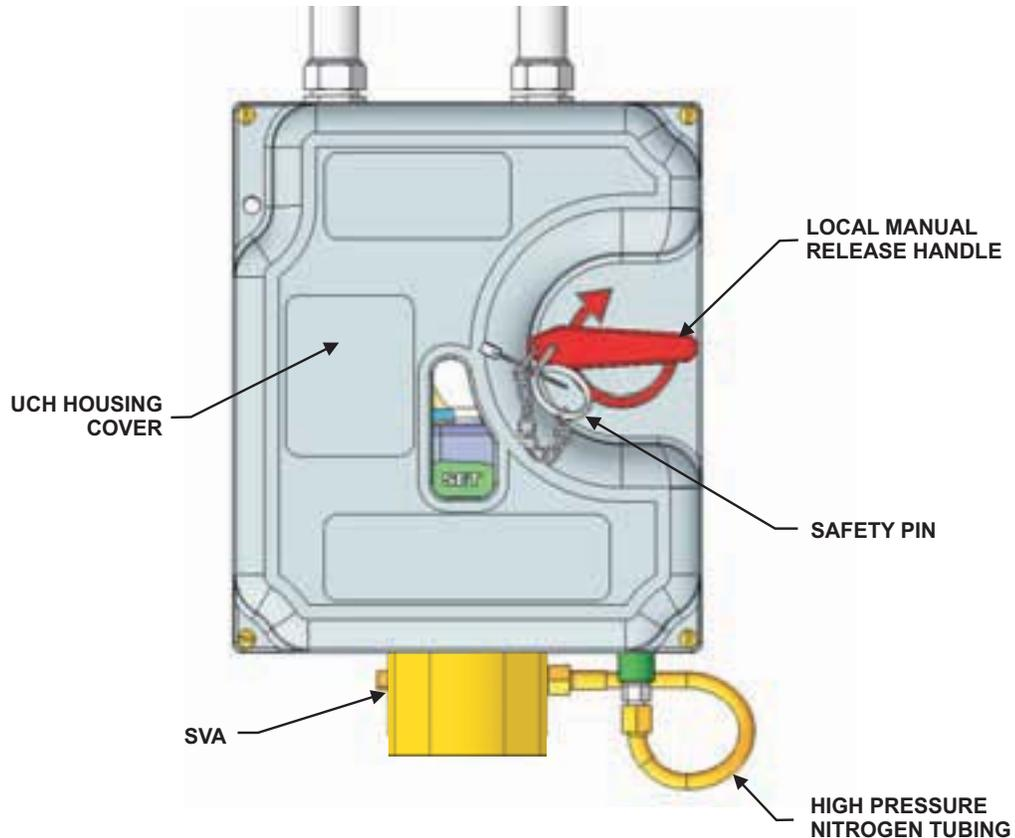

Figure 4-92. UCH Control System, Cover Attached
2. Locate the cover of the UCH Control System. Ensure that the local manual handle is set and that the Safety Pin is inserted (see Figure 4-92). The handle should be locked in the set position. If the handle can turn, adjust until the pin can be inserted all the way through the handle into the body of the cover.